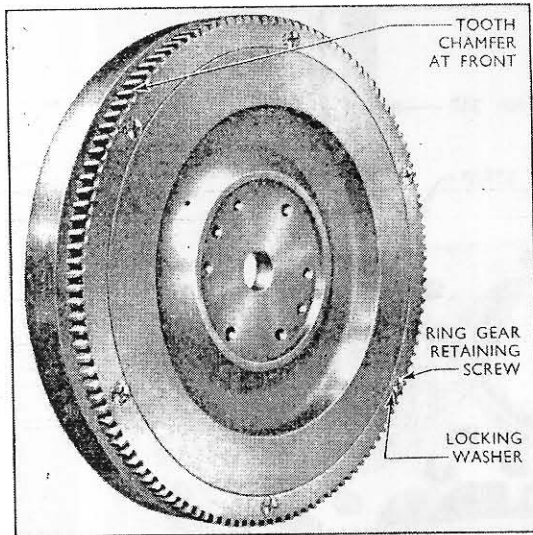

Fig. 15
34. To remove the flywheel ring gear, remove the six countersunk screws securing the gear to the flywheel, and tap the gear off its register (see Fig. 15).